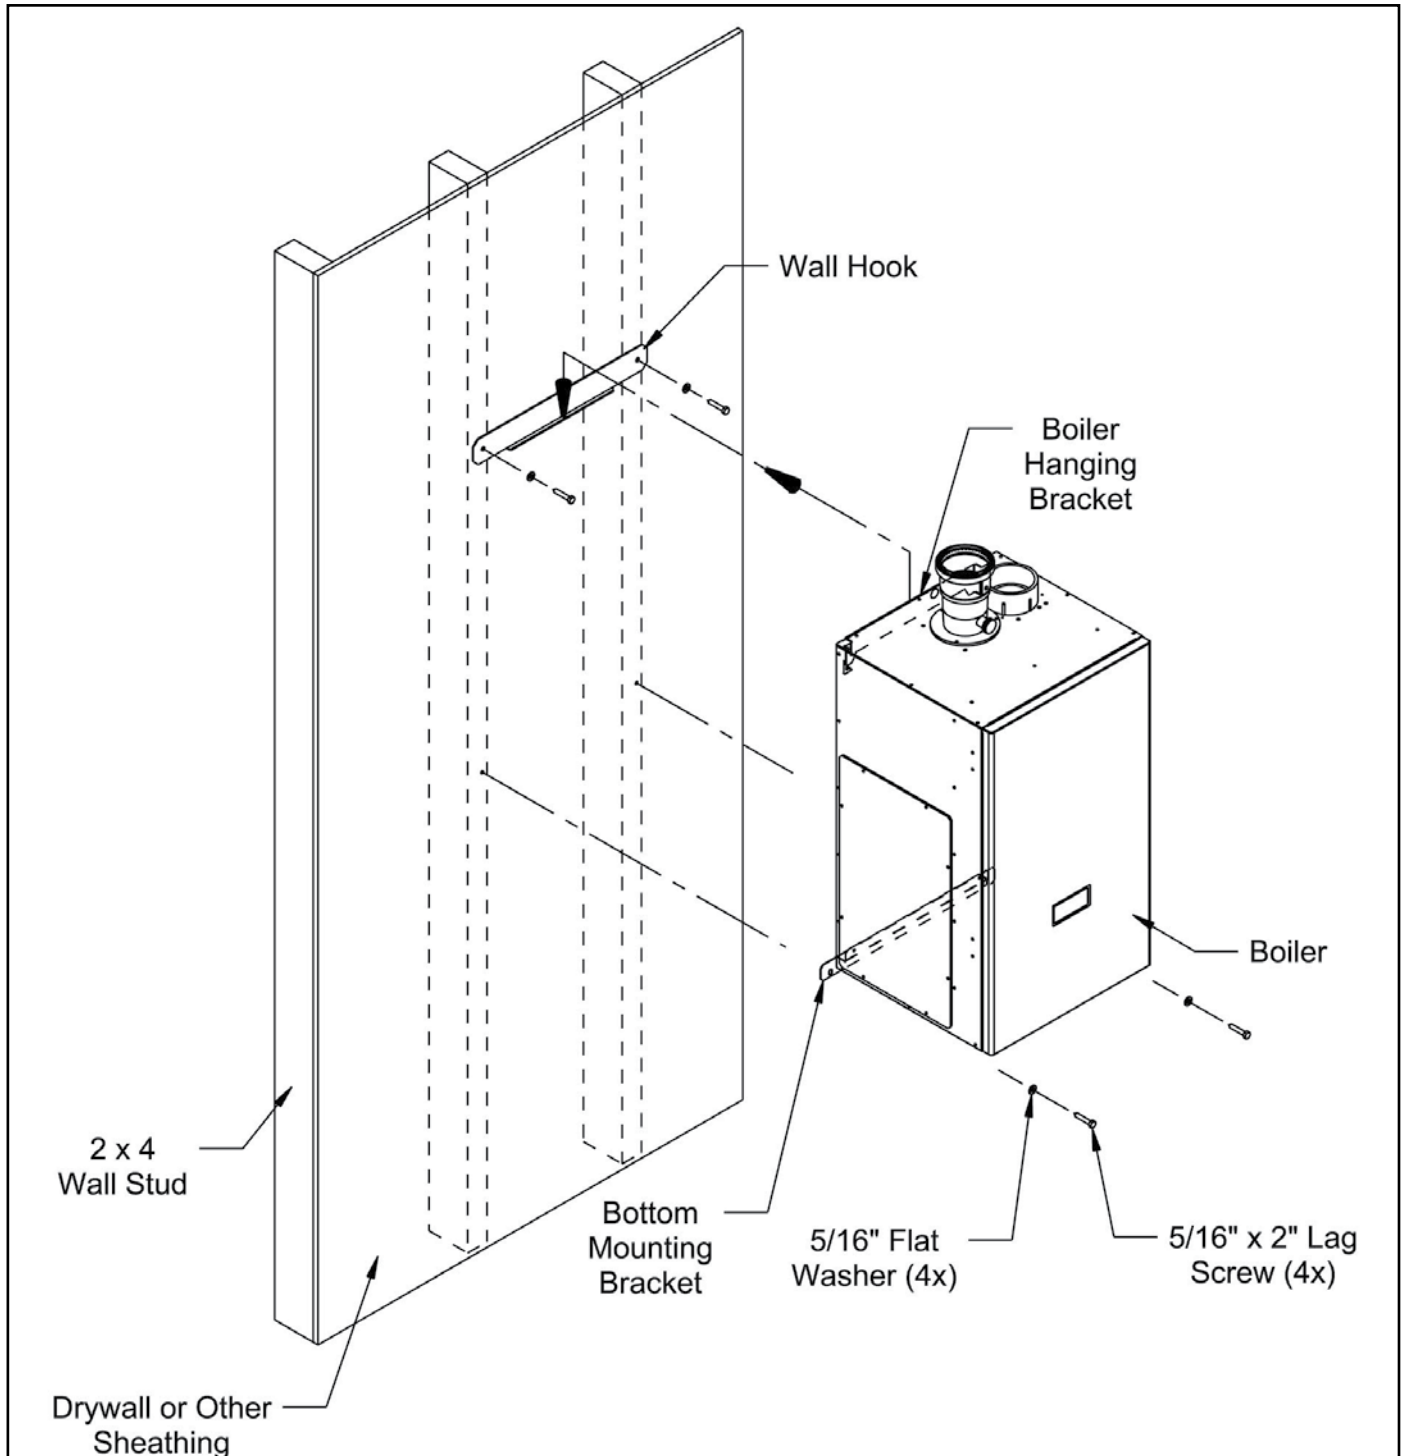

Figure 5.2 Boiler Mounting Bracket Installation / Boiler Wall Mounting
6. The wall mounting hook is used to secure the boiler to the shipping pallet. Remove this hook from the pallet and secure to the wall using the 5/16" x 2" lag screws and washers, or other suitable anchors as appropriate (Figure 5.2). Make sure the hook is level.
7. Hang the boiler on the wall hook as shown in Figure 5.2.
8. If not already done in Step (5) locate and drill holes "C" and "D" using the obround slots in the bottom mounting flange. Secure the bottom flange to the wall using the 5/16" x 2" lag screws, or other fasteners as appropriate (Figure 5.2).